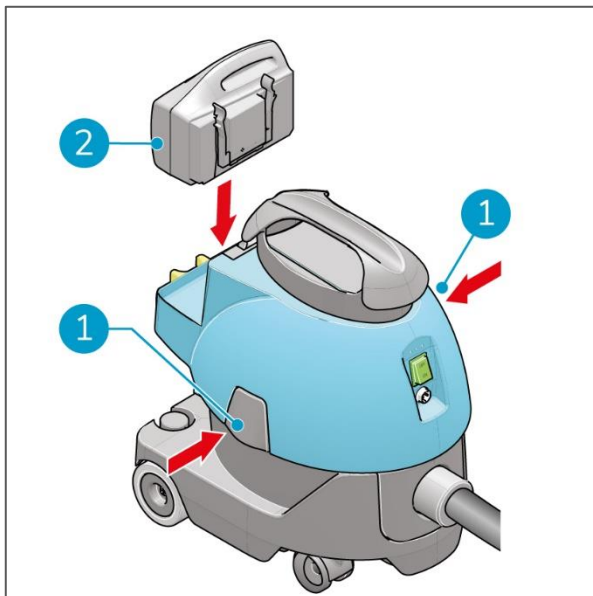

Figure 15
16. Fasten the latches (Figure 15, pos 1).
17. Replace the battery (Figure 15, pos 2).